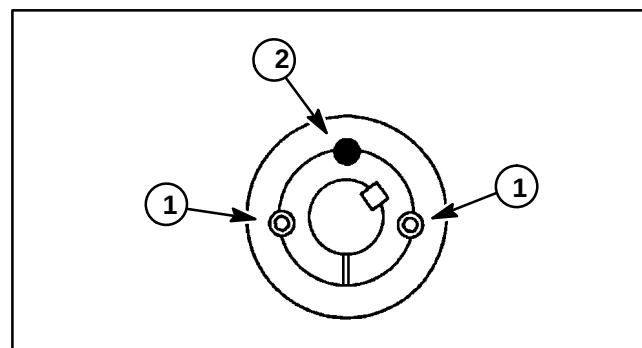

Figure 10
5. Remove four (4) cap screws (item 17) and lock washers (item 16) that secure gearbox assembly to gearbox brackets.
6. Remove fasteners that secure left side gearbox bracket (item 12) to deck mounting plate. Remove bracket from deck.
8. Remove two (2) set screws that secure taper lock bushing to drive pulley on gearbox shaft.
9. Thread one of the removed set screws into threaded hole of bushing (Fig. 10). Tighten set screw to loosen bushing from pulley hub.
4. Lightly oil threads of set screws and install screws into threads of pulley (Fig. 10). Alternately and evenly tighten set screws to a torque of 175 in-lb (19.8 N-m).
7. Position and secure left side gearbox bracket (item 12) to deck mounting plate.
8. Secure gearbox assembly to gearbox brackets with four (4) cap screws (item 17) and lock washers (item 16).